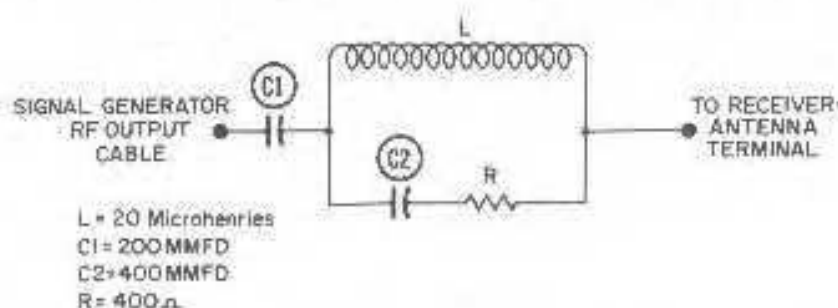

FIGURE 22
3. RF section — The PACO G-30 RF cable must now be connected to the antenna post, and the ground lead attached to the receiver ground terminal or chassis. (See - 2, Oscillator section - for receivers using a loop antenna). In general practice it is good to connect an all-wave dummy antenna between the generator and the receiver. See Figure 22.